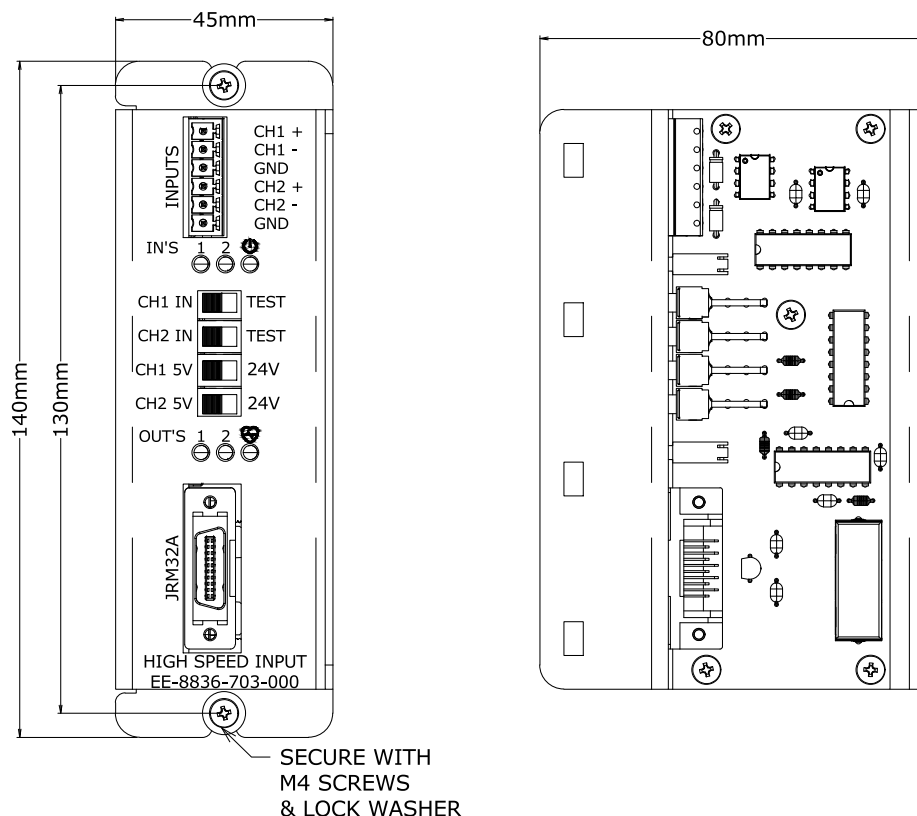

Figure 4.1.1 HSI Module Mounting Dimensions
1. Mount the HSI module. The footprint of the module which describes the mounting provision is shown in Figure 4.1.1. The unit requires two M4 screws and washers located on the top and bottom of the chassis.